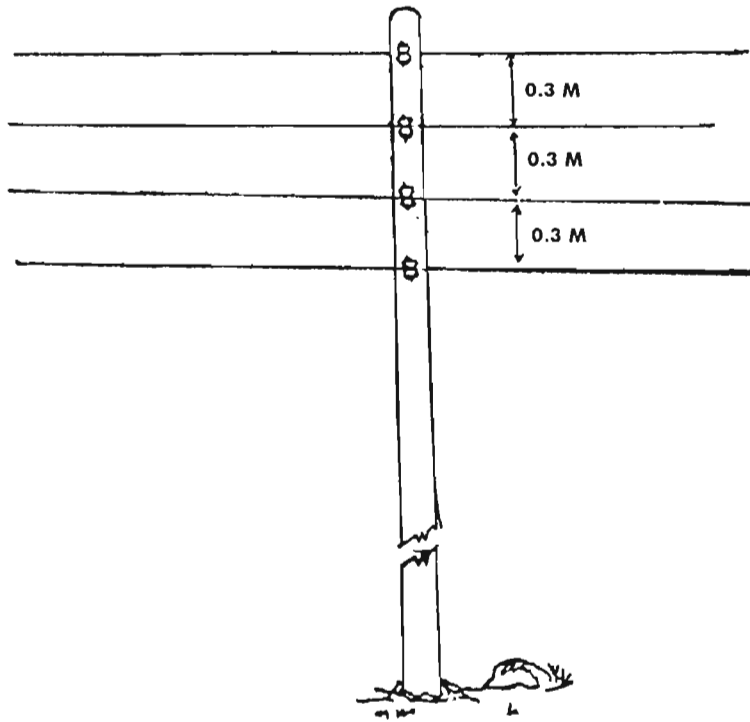

Figure 6.1: Spacing of Conductors at the Pole
- Dig holes in the ground for the poles and fix accessories (e.g., D-iron clamps and insulators) on the poles. The spacing between the insulators is shown in Figure 6.1.